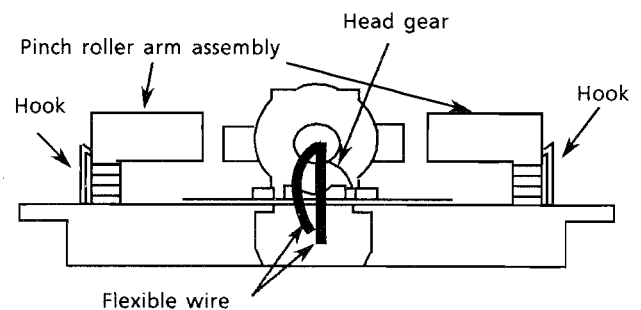

Fig 16
2. Unsolder the flexible wire (Fig 16).
2. Release the hook holding the pinch roller arm assembly to remove the assembly (Fig 16).